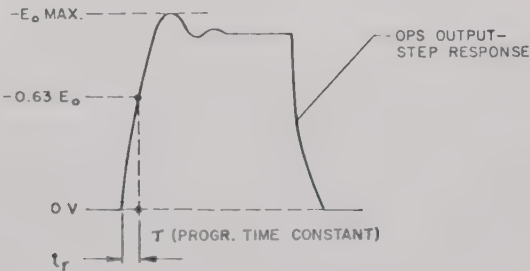

FIG 5-5 OPS OUTPUT WAVEFORM FOR TIME CONSTANT MEASUREMENTS.
- 1) To measure the PROGRAMMING TIME CONSTANT, adjust the gain of the square-wave generator (E_i) until the output waveform (displayed on the oscilloscope) shows a peak amplitude equal to the maximum rated output voltage of the OPS model under test. (Refer to FIG. 5-5.) NOTE: Use *inverted* oscilloscope input.